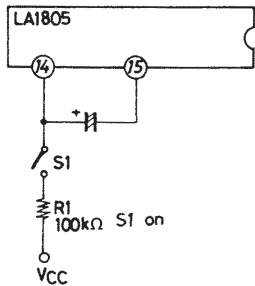

Figure 1 Forced Monaural Mode Setting Method
Figures 1 and 2 show how to cause the forced monaural mode to be entered.
- (1) Connect pin 14 to VCC through a resistor of 100kΩ. (Turn ON the SW1 in Figure 1.)